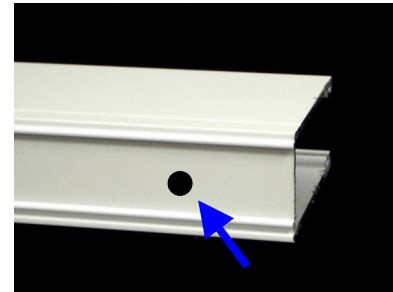

Figure 15 Side Channel Drill Point
- Place holes about 1" from each end (Figure 15) plus one near the center.